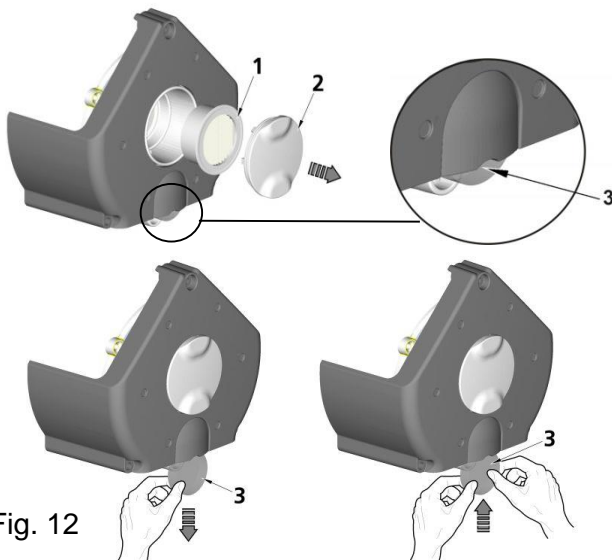

Fig. 12
19.5. Air pumps intake filter set replacement (Fig. 12)